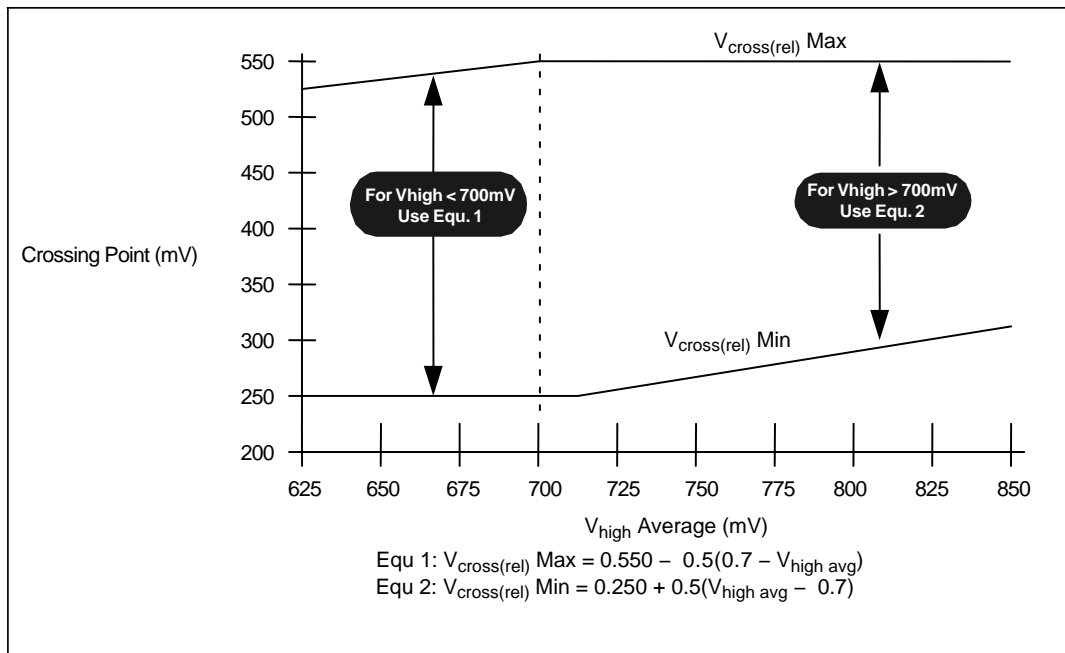

Figure 16. V_{cross} Range Clarification (Note 40)
16. Vcross(rel) Min and Max are derived using the following, $V_{\text{cross}}(\text{rel})\ \text{Min} = 0.250 + 0.5 (V_{\text{high avg}} - 0.700)$. $V_{\text{cross}}(\text{rel})\ \text{Max} = 0.550 - 0.5 (0.700 - V_{\text{high avg}})$. (see Figure 16 for further clarification).